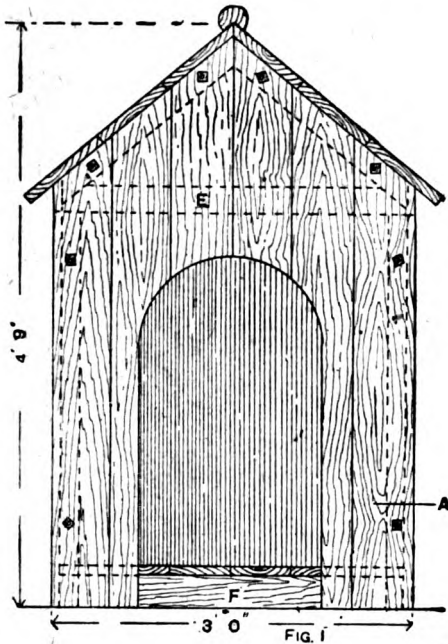
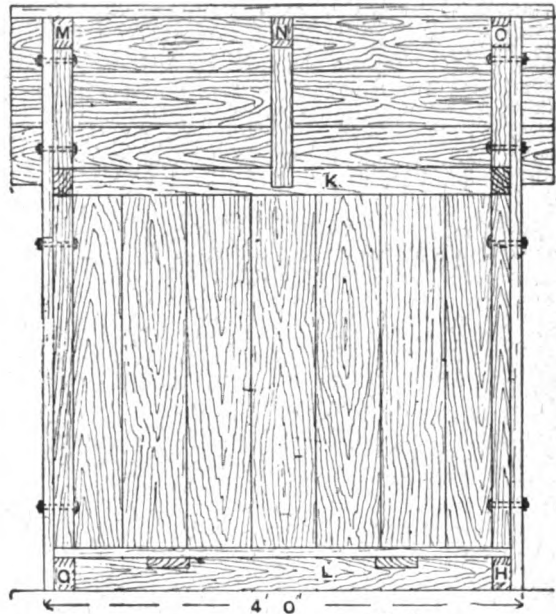
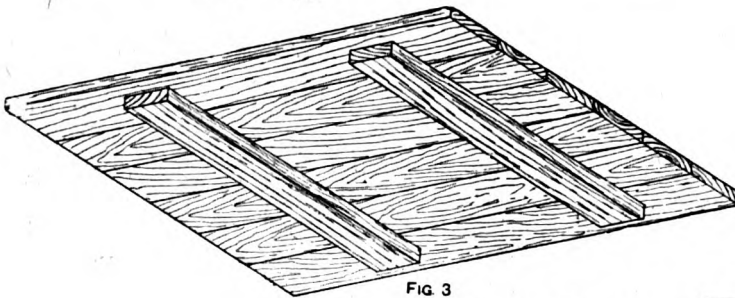

FIG. 1
FIG. 2
FIG. 3
**Portable Dog-kennel.**—One-inch grooved and tongued boards 6 in. wide is a suitable material of which to make the portable dog-kennel illustrated by Fig. 1. The boards of the sides should be nailed to a 1½-in. by 2-in. ledge at the top and a 3-in. by 1½-in. ledge at the bottom (see K and L, Fig. 2). The boards of the front and back should be nailed to similar ledges, as shown at F and G (Fig. 1). The boards forming each side of the roof should be nailed to the three bearers M, N, and O (Fig. 2). Fig. 3 shows the construction of the floor. It will be seen that the kennel will be composed of seven main pieces. A fillet about 1½ in. by 1½ in. should be nailed to each end of the sides, as shown in the longitudinal section (Fig. 2), and also by the enlarged section (Fig. 4); this is taken through A (Fig. 1). B (Fig. 4)
shows a portion of the boarding of the side with the angle fillet D nailed to it. The front and back can be fixed to the sides by eight 2-in. by 1-in. bolts and nuts, as shown at Figs. 1 and 2, and indicated by the section, Fig. 4. Each half of the roof can be fixed to the ends by eight bolts and nuts in a similar manner. The floor will rest on the ledges G and H (Fig. 2) round the bottom of the boarding. The roof should be covered with felt.
**Detachable Lath for Table Top.**—The drawings herewith show a simple and effective arrangement for holding a lath to a table top. A cleat A (Figs. 1 and 2) is fixed to the end of the lath B by a couple of screws, as indicated, the cleat and lath being held to the table top by inserting a wedge W, as shown. Fig. 3 is a view
to the thickness of the metal; C should be saw-kerfed, so that it will bend to the required curve. On each end of B and C fasten D, and two strips E, running the whole length of the pattern. Finally attach F by screws, which may be released to facilitate removal of the core, which is rammed inside the pattern. The pieces F should be stiffened by removable battens to prevent the ramming bulking the pieces outward. The open part of the core is strickled to shape by a straight strip of wood G (Fig. 2) shouldered down to the thickness of the metal, and guided by and working between the two segments D (Fig. 1). When the mould is to be rammed, the battens used for stiffening the pieces F (Fig. 1) are removed. The inside of the pattern is then filled with sand and strickled off level with the convex edges of the segments. The latter is done with the flush edge of the strickle G (Fig. 2). After withdrawing the pattern, the stiffening blocks A (Fig. 1) are stopped off by filling up the spaces left by them in the sand. The core must be supported in the mould by studs or chaplets, and provision must be made for securing the vent of the core through branches or openings on the casting. Any branch on the casting not occurring at the junction of the straight and curved parts of the metal should be left loose, so that it may be taken away on a draw-back plate. Shallow bosses or facings should also be loose. All external edges of the casting should be well rounded. Fig. 3 shows the finished pattern.